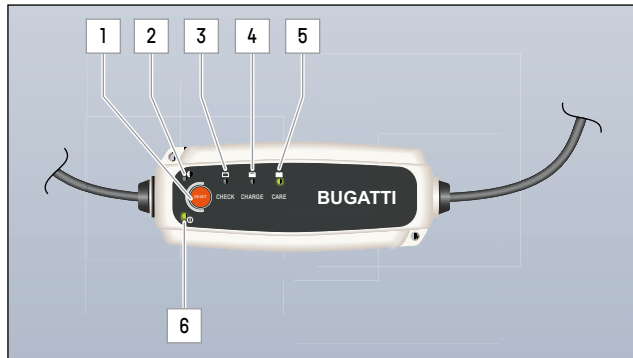

FIG.103 BUGATTI XS 5.0 BATTERY CHARGER
- ▶ LED 4 (» Fig.103): charging mode will start.
NOTE: The battery is fully charged when the display 5 (» Fig.103) is lit.
- ▶ Disconnect the battery charger from the connector when green LED 5 (» Fig.103) turns on. Means that the battery is fully charge.
Disconnect the charger as soon as possible when green LED 5 (» Fig.103) turns on, otherwise the battery will discharge.
- ▶ If the error LED 2 (» Fig.103) lights up, press the RESET button 1 (» Fig.103).
When the power LED 6 (» Fig.103):